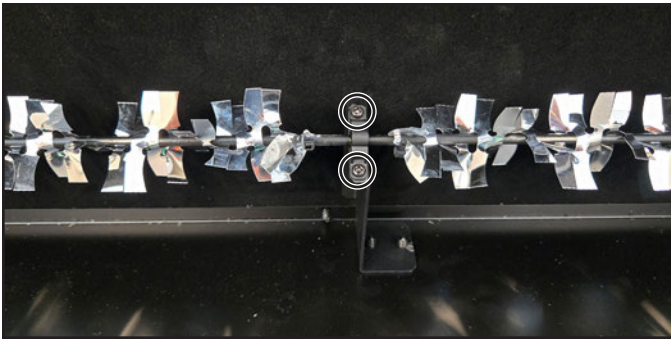

Figure 21 Middle Rotisserie Support Bracket Screws
4. Remove the two (2) screws holding the middle rotisserie support bracket in place. See Figure 21.